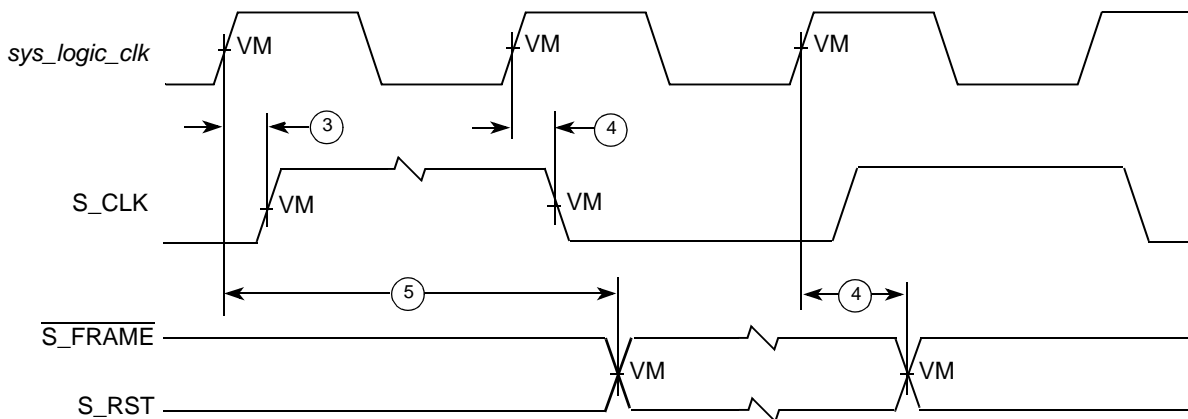
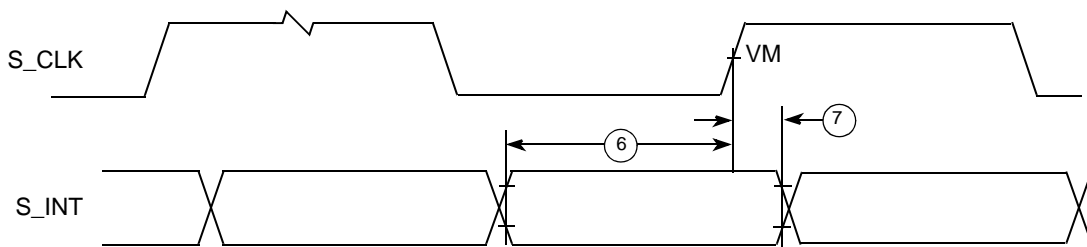

Figure 17. PIC Serial Interrupt Mode Output Timing Diagram
Figure 18. PIC Serial Interrupt Mode Input Timing Diagram
2. S_RST, S_FRAME, and S_INT are shown in Figure 17. Figure 18 depicts timing relationships to sys_logic_clk and S_CLK and does not describe functional relationships between S_RST, S_FRAME, and S_INT. See the *MPC8240 Integrated Processor User's Manual* for a complete description of the functional relationships between these signals.